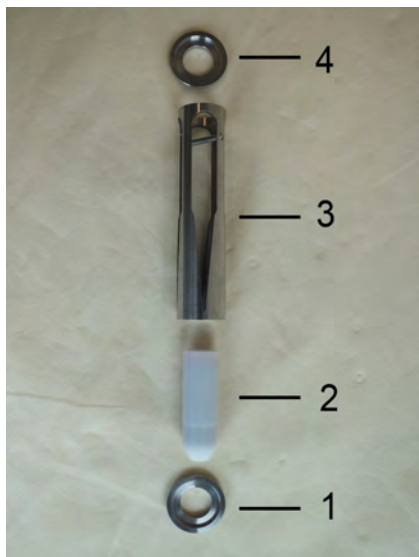

Fig. 46: Inner parts
6. ➤ The inner parts of the flow monitor consists of the centering disc (inlet) (Fig. 46/1), float (Fig. 46/2), slot nozzle (Fig. 46/3) and centering disc (outlet) (Fig. 46/4).